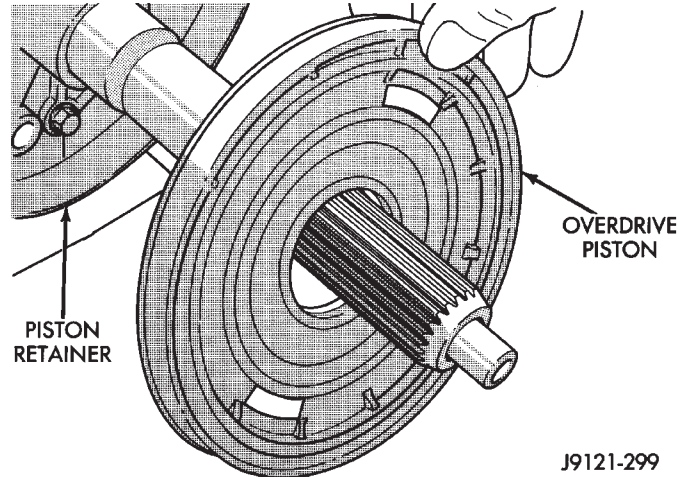

Fig. 196 Overdrive Piston Removal
(3) Remove overdrive piston from retainer (Fig. 196).